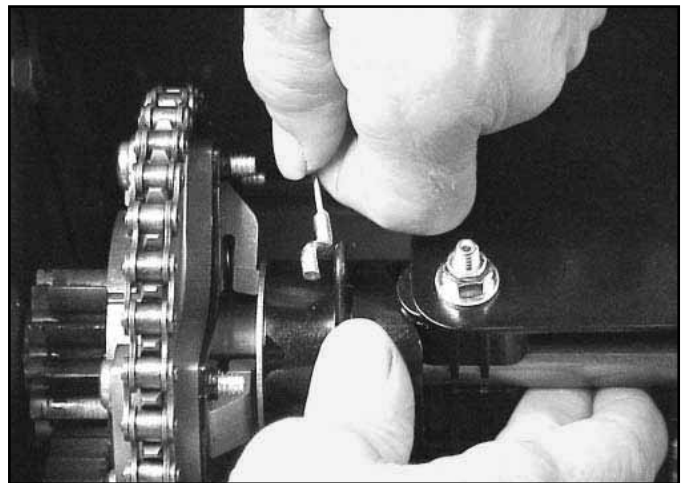

Fig 121 MVC-898XB.jpg
7. Remove clutch cables - Rotate the shift collar up to release tension on the clutch cable and maneuver Z bend of the cable end out of the upper clutch collar (Fig. 121).